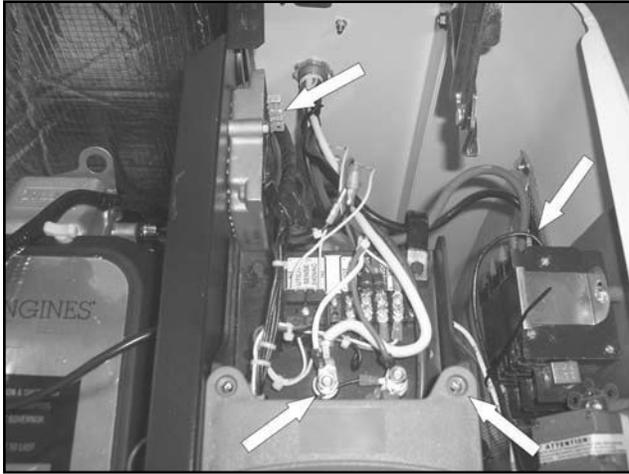

Figure 5.
4. Remove Stator Wires: Remove all wires from the voltage regulator, remove the neutral and ground wires from landing lugs, and remove N1 & N2 wires from main bearers. See Figure 5.